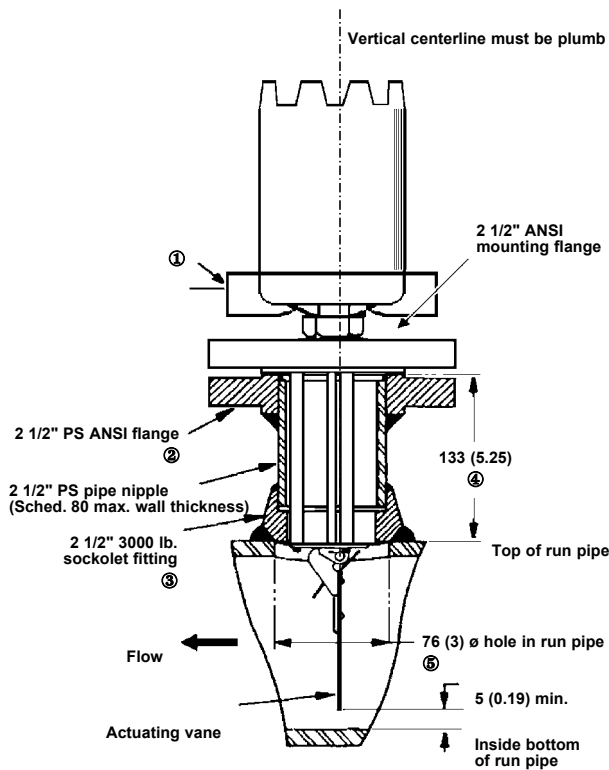

Figure 6
**Figure 6** shows 1 method which may be used to mount the Model F10 flow switch to 2 1/2" through 30" run pipes. Before final welding, alignment of mounting flange should be checked to be certain it is plumb. Finished mounting must allow control switch housing to be within 3° degrees of vertical for proper operation. A 3° slant is noticeable by eye, but installation should be checked with a spirit level.